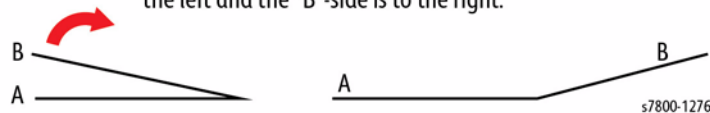

Figure 1 Fold Specification
7. Measure and record "X1" and verify Fold Position on that job against the Fold Specification table in Figure 1.